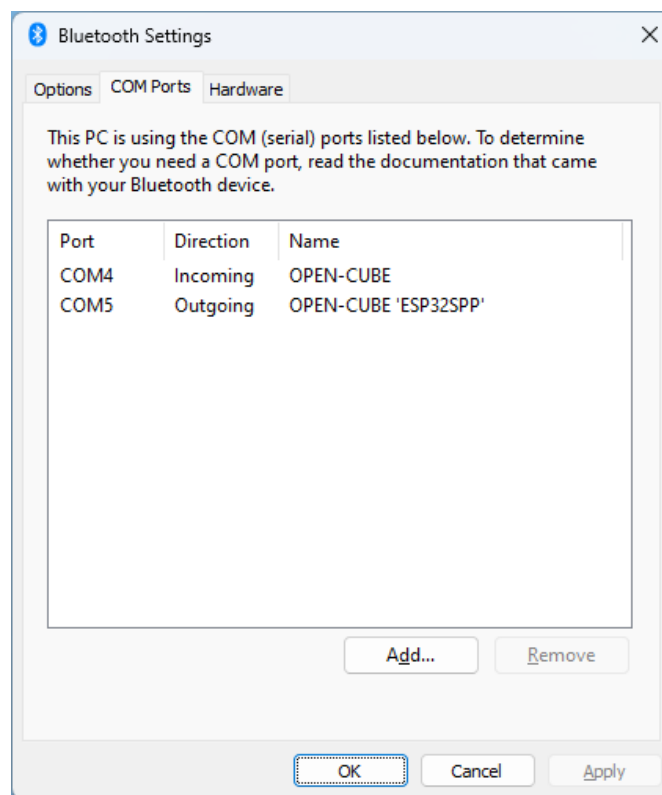

Figure 3: Determining the COM port number
4. Continue to the advanced Bluetooth settings to find the COM port number. The desired COM port has a name containing ESP32SPP and direction Outgoing. See figure 3. This COM port is used for both receiving and sending data!